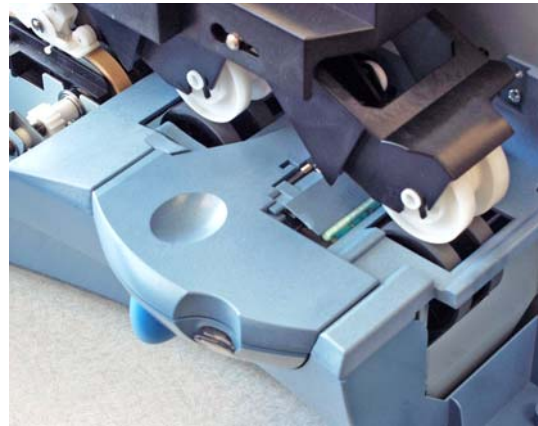

Figure 3-3H Moistener Assembly
The gap between envelopes is produced by the speed difference between the feed belts and the take away rollers (TAR) shown in Figure 3-3H. There is no operator thickness adjustment and field adjustment of the separator gap is not recommended, as it is fixed at the time of manufacture. In the event that disassembly of the feed and separation components is required, the gap adjustment must be returned to its original state as explained in Chapter 5 of this manual. The operator can raise the entire upper transport to clear jams using the auto feeder's jam release lever.
**Envelope Moistener.** The mail piece is driven through the moistener via the two sets of takeaway rollers. The moistener assembly is a variant of the design used in the Pitney Bowes DM500 mailing systems. Figure 3-3H shows the DM400c/DM450c moistener. The moistener used for the DM300c, DM400c, DM450c and DM475 all have similar but not interchangeable parts. They are a water tank, moistener wick and grate and moistener brush. The DM400c and DM475 also have a separate water bottle. The DM300c does not.